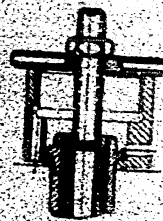

Fig. 18
b) removal of the nozzle spray from the casing by means of a special tool (Fig. 18).